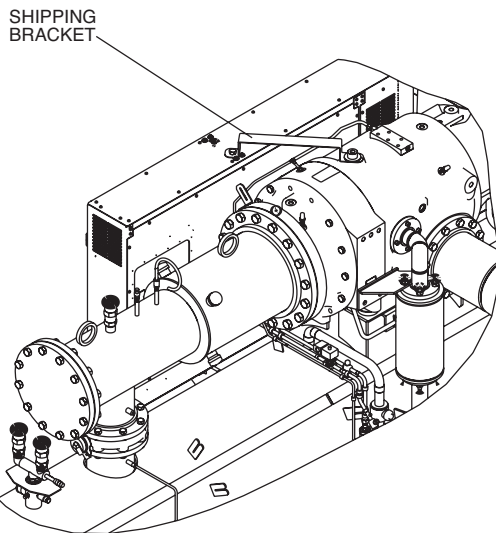

Fig. 39 — Control Center Shipping Brace
9. Remove the control center shipping brace (see Fig. 39).